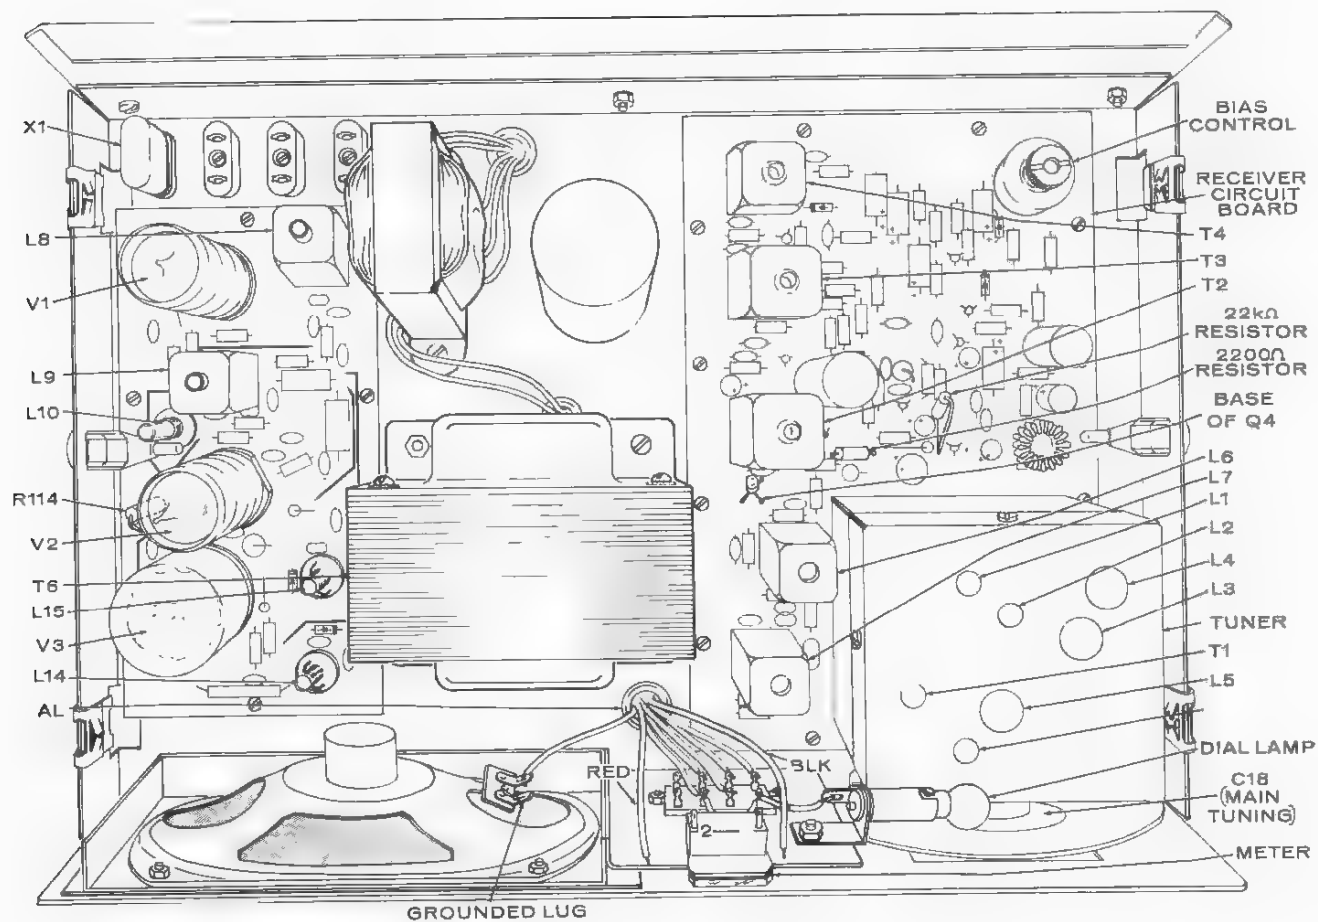

FIGURE 2-1
Refer to Figure 2-1 (fold-out from this Page) to locate any parts mentioned in this section.
- () Refer to Figure 2-1 and adjust the BIAS control clockwise until the meter reads exactly 2.
- () Refer to Figure 2-1 and tack solder the free end of the black wire from the meter to the ground lug of the speaker (S-1).
- () Refer to Figure 2-1 and install the 2200 Ω (red-red-red) resistor on the receiver circuit board. Solder both leads and trim off excess lead length.
- () Refer to Figure 2-1 and install the 22 k Ω (red-red-orange) resistor on the receiver circuit board in a vertical position. Solder both leads and trim off excess lead length.